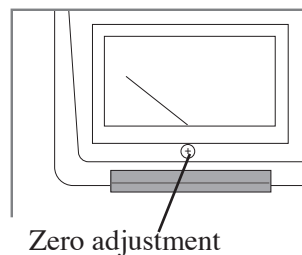

Fig.5-1 Zero adjustment of the analog voltmeter
2. Set the switches and controls on the front panel to their initial setup positions. See Fig. 5-1.